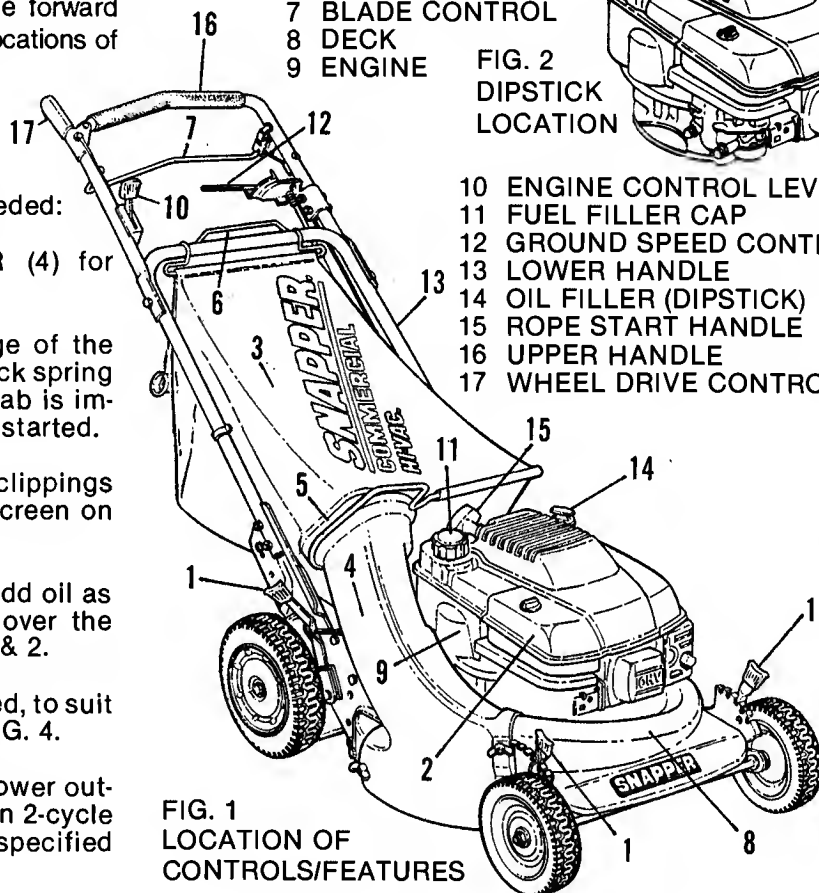

FIG. 1
The engine (and blade) is stopped by releasing the **BLADE CONTROL**. On self-propelled models, releasing the **WHEEL DRIVE control (17)** stops the forward movement of the mower. Refer to FIG. 1 for locations of controls.
•**CHECK** guards, BAG (3), BAG ADAPTOR (4) for proper position and tightness.
•**CHECK** oil level in 4-cycle engines and add oil as needed to bring the level up to but not over the dipstick (14) "FULL" mark. Refer to FIG. 1 & 2.
1. Move **ENGINE CONTROL** lever to **CHOKE** position. Refer to FIG. 1.